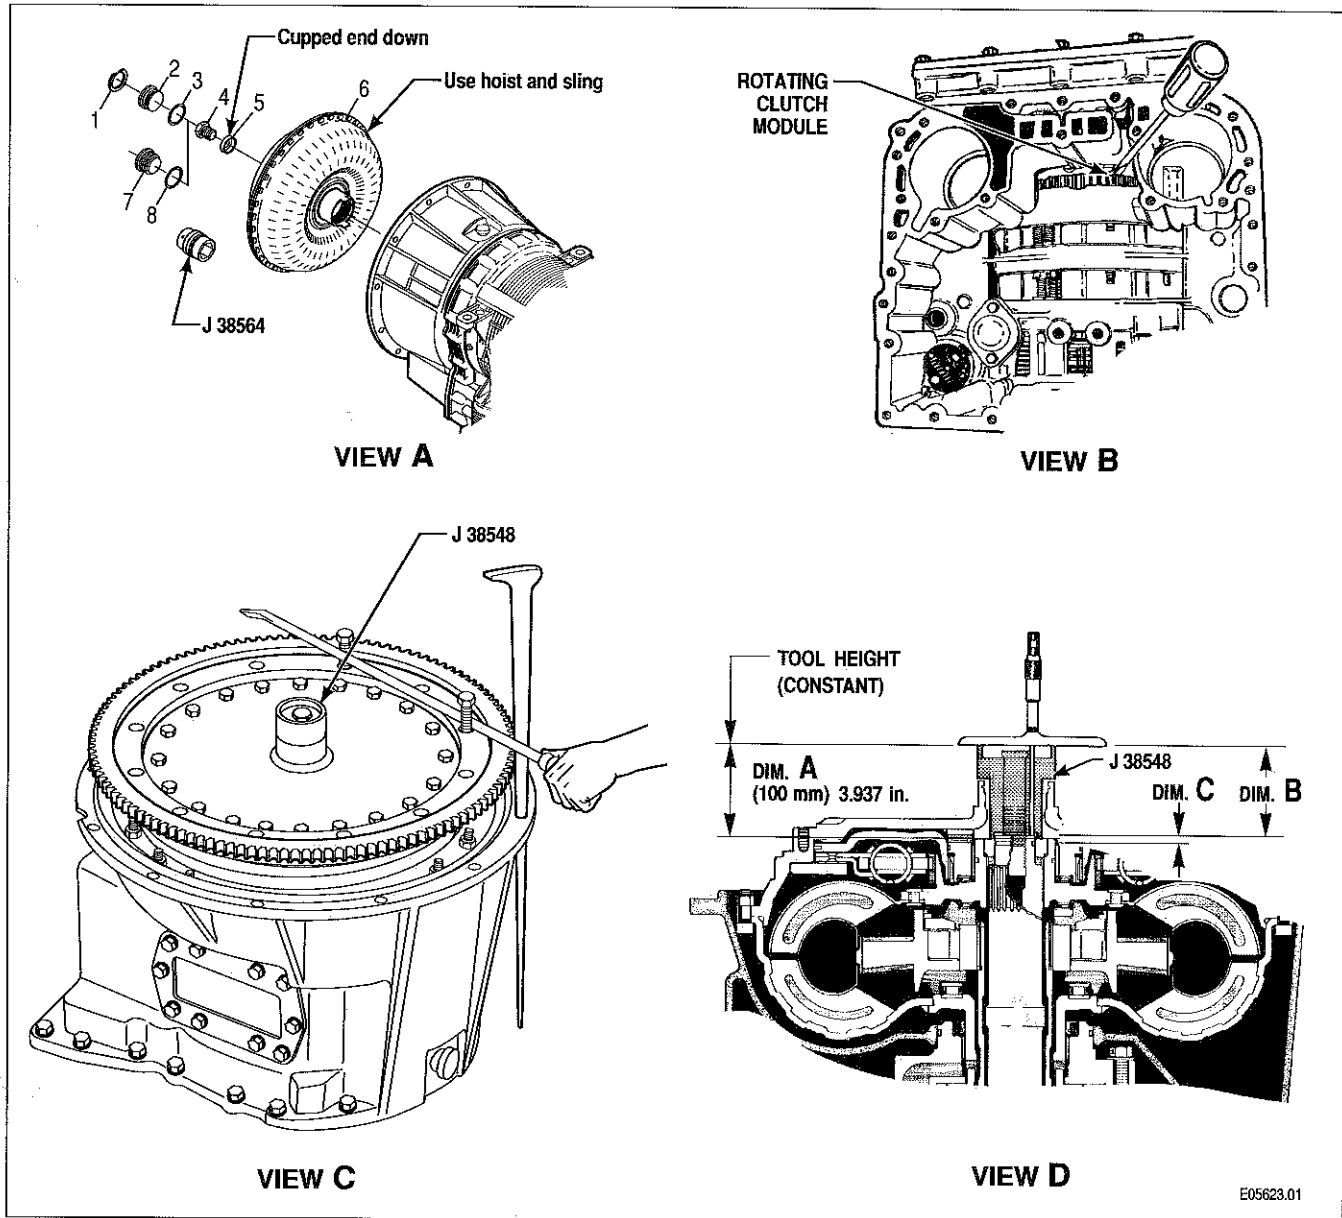

Figure 6-17. Torque Converter Module Installation and Selective Shim Measurement
### q. Installation of the Torque Converter Module (Figure 6-17)
3. Using hoist and sling, install torque converter module 6 into the converter housing module (Figure 6-17, View A).
- Insert a screwdriver into the vanes on the rotating clutch module (Figure 6-17, View B).
- If the control module is in place, remove the plug(s), if present, from the fill tube hole or from cooler ports before applying lockup air pressure. Apply air pressure through the lockup pressure tap (Figure 4-7, View D) and use a heel bar, screwdriver, and bolts. Insert the heel bar into a torque converter housing bolt hole. Insert two bolts into the flexplate adapter bolt holes. Then place a screwdriver at an angle to prevent converter rotation (Figure 6-17, View C).
7. Measure from top of tool J 38548 to face of turbine shaft and record it as dimension B. Subtract dimension B from dimension A—dimension A is the height of tool J 38548, 100.00 mm (3.937 inch) to determine dimension C (Figure 6-17, View D).
- For units before S/N 6510165560, go to Step (9).
- For units beginning with S/N 6510165560, skip Steps (9)–(11) and go to Step (12).
9. Install selective shim 5 with the shim step side toward the turbine shaft. Install bolt 4, converter bolt tightening tool J 38564, and retaining ring 1 (Figure 6-17, View A).
10. Prevent turbine shaft rotation as in Step (5). Tighten bolt 4 to 100–120 N·m (74–89 lb ft).
12. Install selective shim 5 with the shim step side toward the turbine shaft. Install bolt 4 and converter bolt tightening tool J 38564 (Figure 6-17, View A).
13. Prevent turbine shaft rotation as in Step (5). Tighten bolt 4 to 100–120 N·m (74–89 lb ft).